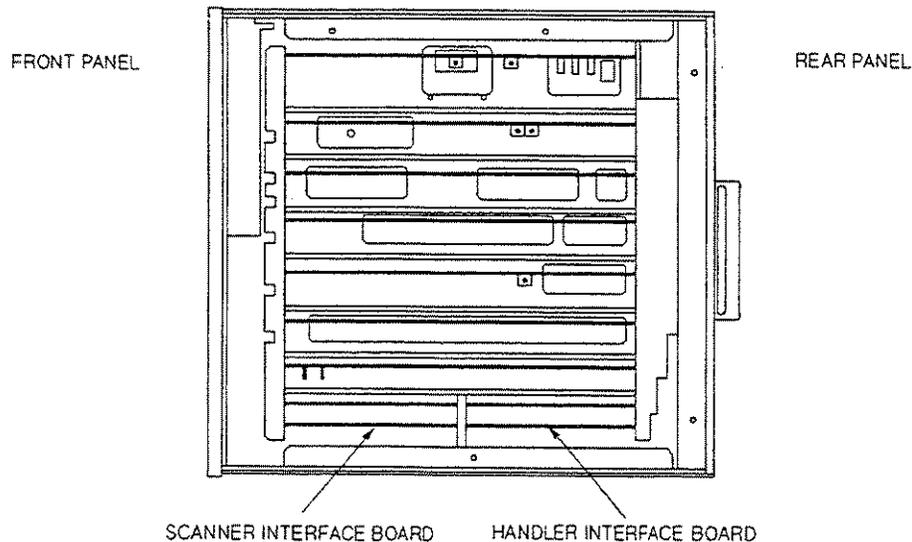

Figure 10-12. Interface Board Locations
6. Disconnect a flat cable from the handler interface board which has an ORANGE and a BLACK, or an ORANGE and a RED extractors. See Figure 10-12.
2. Disconnect the flat cable from the handler interface board. The handler interface board has brown and an orange extractors and its location is shown in Figure 10-12.
2. Disconnect the flat cable from the scanner interface board. The scanner interface board has black and yellow extractors and its location is shown in Figure 10-12.